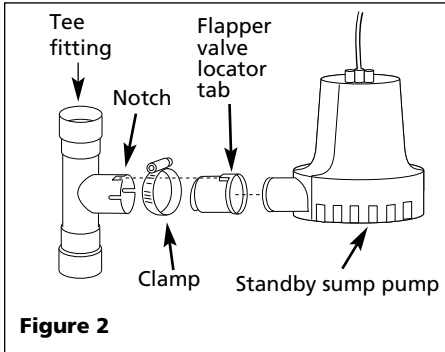
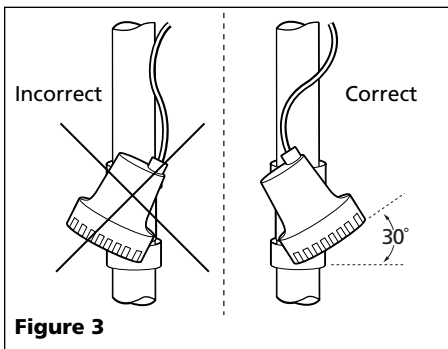

Figure 2
Figure 3
the up direction arrow on the tee; the notch must be to the top or flapper valve will not work (see Figure 2).
5. Insert flapper valve into tee. Be sure locator tab is in the notch in tee (see Figure 2).
7. Insert pump into flapper valve, tilt pump 30°. When tilted, side with power cord should be up (see Figure 3). Tighten clamp around the pump and flapper valve (see Figure 2).
⚠ WARNING Pump must be tilted as shown in Figure 3 to prevent air locking.